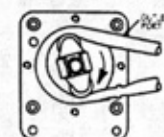

Figure 9-4
- 9 Finally, insert the pump tubing into the outer port as shown in Figure 9-4. Replace the outer cover and screws, and reconnect the suction and discharge tubing to the pump tubing.